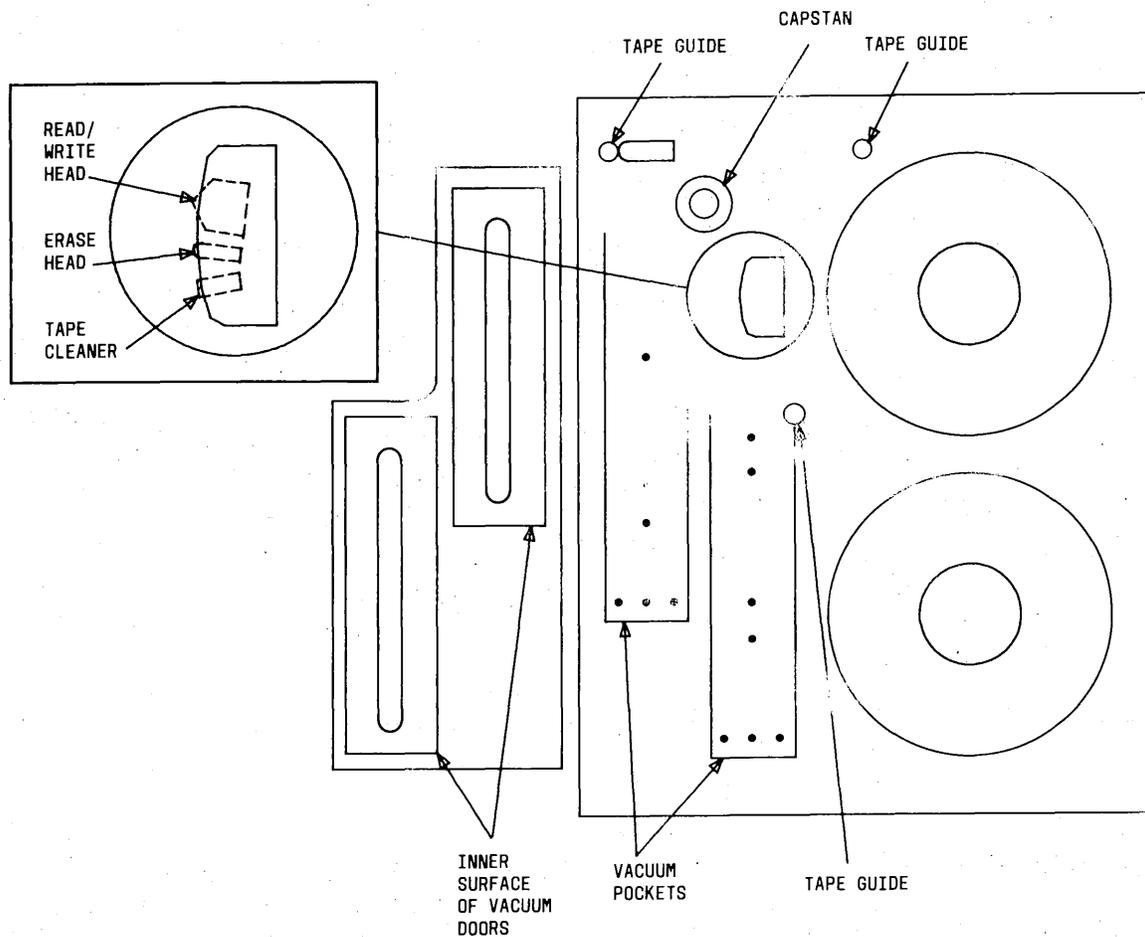

Fig. 5—Location of Areas That Need Cleaning on TU16/TE16
- 2 Clean the following components of the transport (Fig. 5) using a foam-tipped swab soaked in cleaning fluid (KS-20406 or equivalent):
2	Clean the following components of the transport (Fig. 5) using a foam-tipped swab soaked in cleaning fluid (KS-20406 or equivalent): <ul data-bbox="391 709 646 926" style="list-style-type: none">• Read/write head• Erase head• Tape cleaner• Three tape guides.